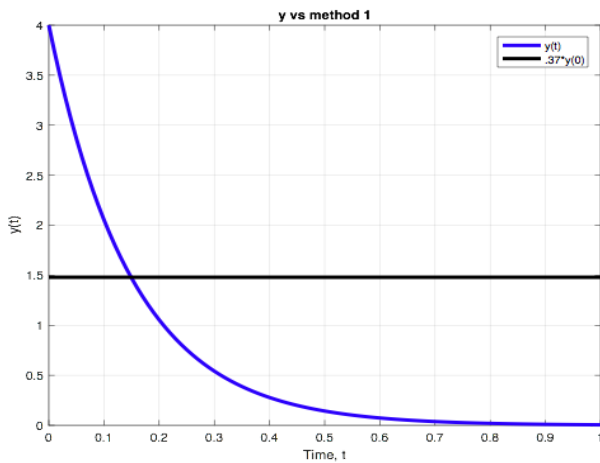
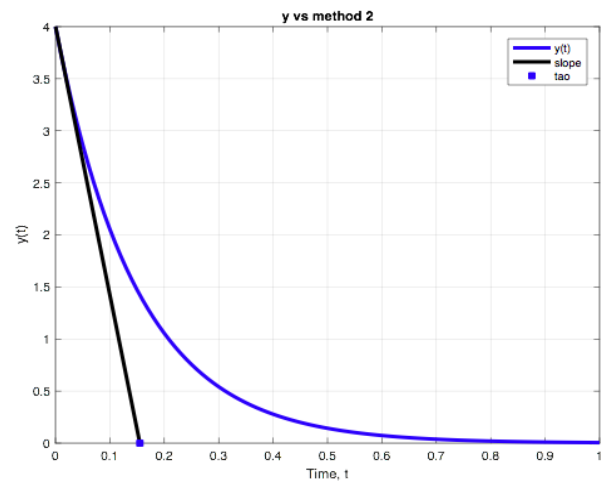

Figure 1.1
figure 1.2
Results: The graphs can be seen in Figure 1.2 and figure 1.3
1. For this part of the lab, I needed to use two different methods to estimate the time constant. The first method is to find the time when $y(0)$ is 37%. The second method uses the tangent line method, which you draw the line and you t intercept is your time constant. Results: For both graphs, I got time constant equal to 0.15. The graphs can be seen in Figure 1.1 and figure 1.2 above.